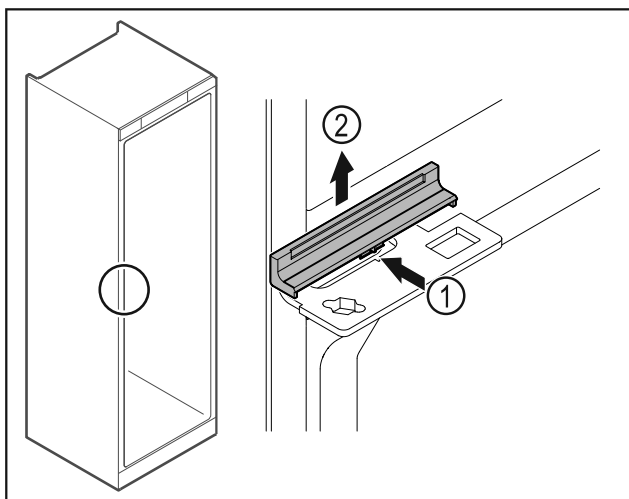

Fig. 43
- Gently press the middle of the cover Fig. 43 (1) and lift it off Fig. 43 (2).